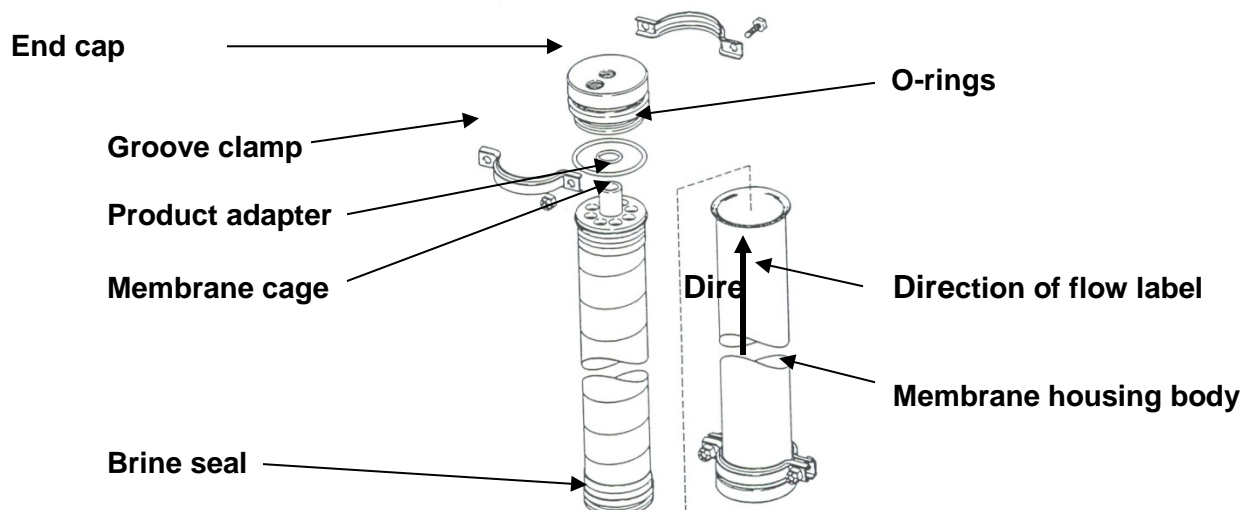

Figure 3. (Stainless membrane housing)
2. Remove the wrapping from the membrane element(s). Lightly lubricate the membrane brine seal and all o-rings located in the membrane housing caps with a good quality, silicone o-ring lubricant (do not use petroleum-based lubricants). Disconnect the connections on the membrane housing's top end cap. Remove the end cap from the membrane housing by loosening the band clamp nuts and bolts. The membrane housing is mounted vertically on the system's stand. See Figure 1. Insert the membrane element into the housing, so that the brine seal of the membrane will seat at the inlet side of the membrane housing (this is indicated by the direction of flow label on the housing). See Figure 3. Gently push and slowly twist until the membrane product adapter seats snugly inside the housing cap still in place at the bottom of the housing. Re-install the disassembled housing cap - be sure that o-rings do not roll out of their grooves, get pinched or cut. Re-install the band clamp snugly and reconnect the connections to the cap.
1. Turn on the feed water valve to the system and check all connections for leaks. Do not proceed further until any leaks are fixed. Water will flow to the pre-treatment housings but will not pass the inlet solenoid (see Figure 3.) until the system has been started. The available line pressure should now register on the line pressure gauge. Purge any air from the pre-filter housing by depressing the red button located on top of the housing.
The membrane element life will range from 1 to 5 years, depending on the quality of the raw water. See 3.4 Figure 3 for membrane removal and installation instructions.